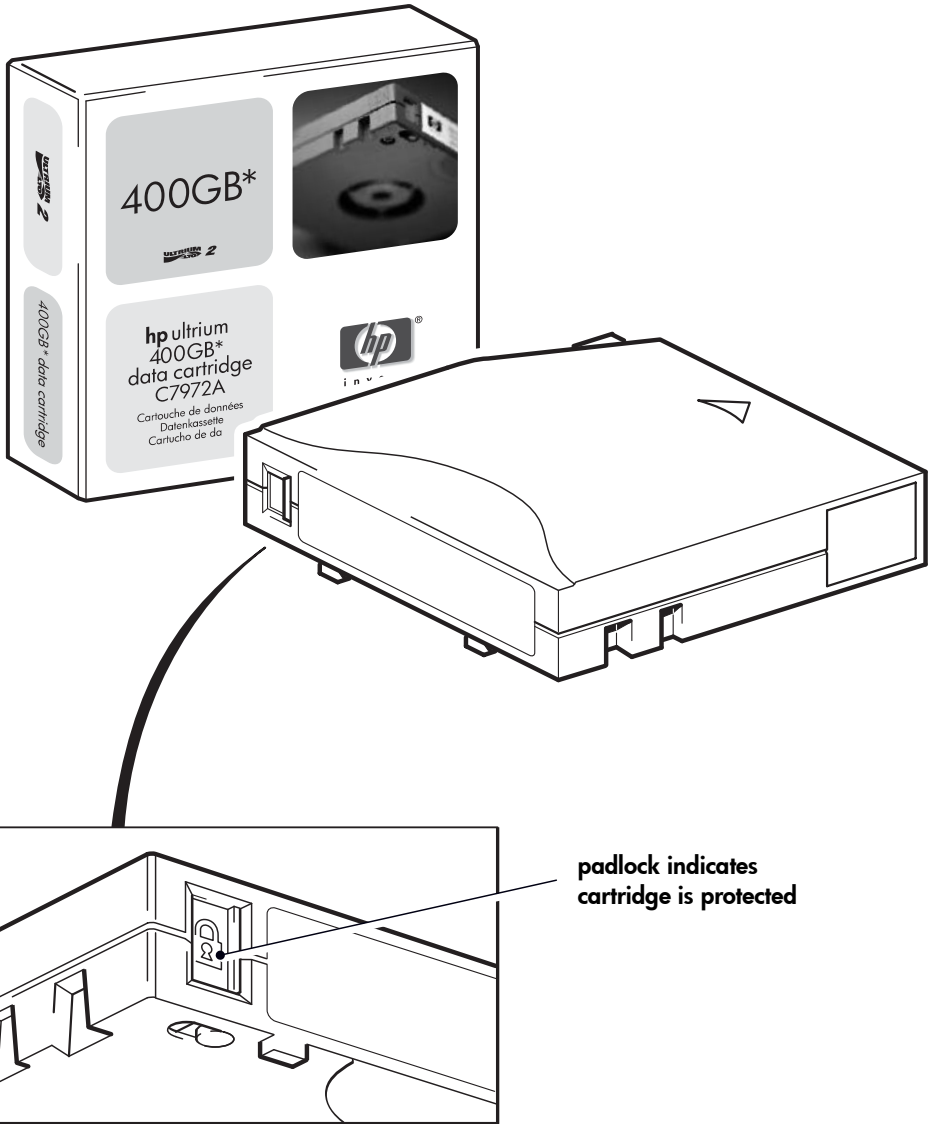

Figure 11: write-protecting cartridges
- To write-enable a cartridge, slide the red tab back so that the hole is open before loading it into the drive. Figure 11 illustrates the location of the write-protect tab.